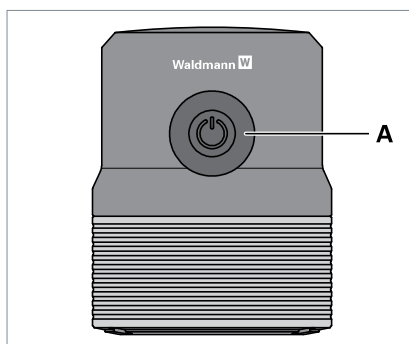

Fig. 5: Key.
- To switch the luminaire on and off, press the key A on the top side of the luminaire head, see Fig. 5.
- To switch to the dimming mode, press the key **A** and keep it depressed for 10s, see Fig. 5.